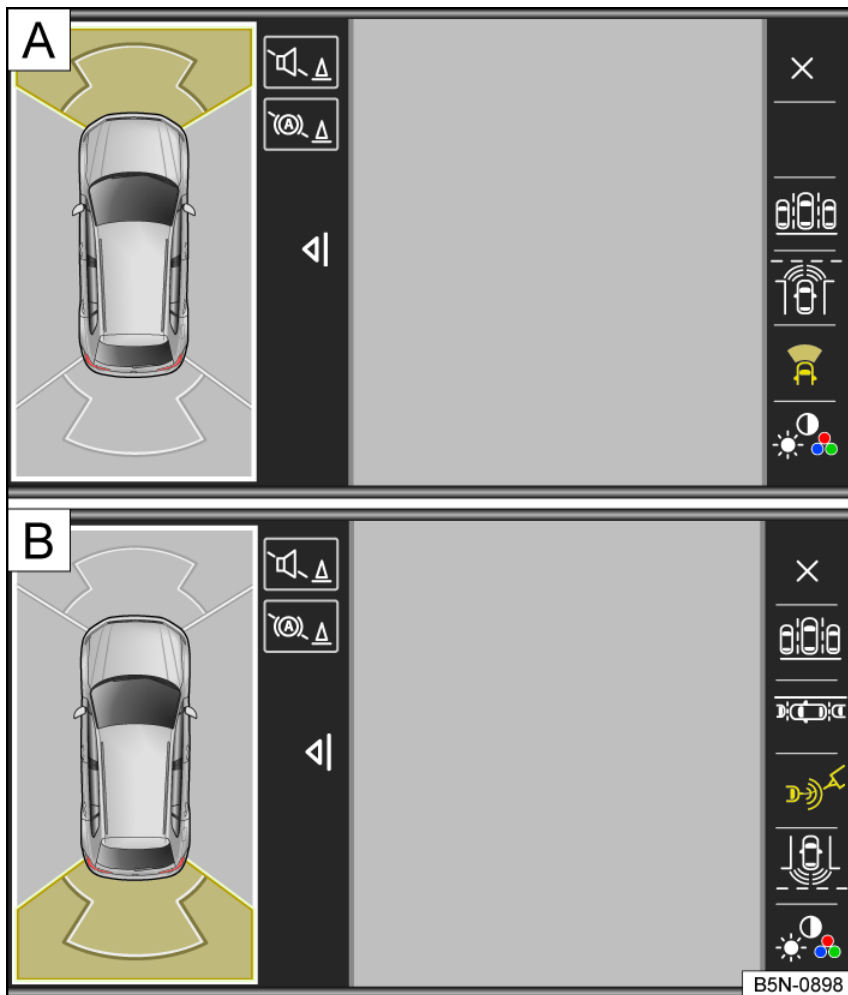

Fig. 154 Infotainment system: Area View screen display.
1. Tap the function keys on the image border to select a display fig. 154.
Two sections of the screen will be shown in the Infotainment system fig. 154: